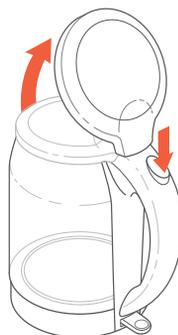

Figure 1.1
3. Press the **Lid Release Button** to open the lid. [\[Figure 1.1\]](#)